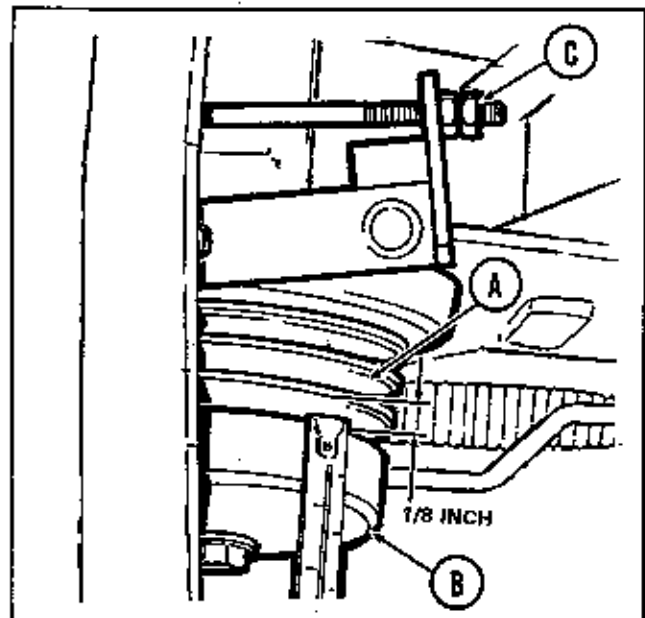

Figure 16. Power take off clutch.
See figure 16. The power take off clutch is properly adjusted when pulley (A) moves 1/8" when the power take off control lever is engaged and disengaged. If adjustment is required, proceed as follows: